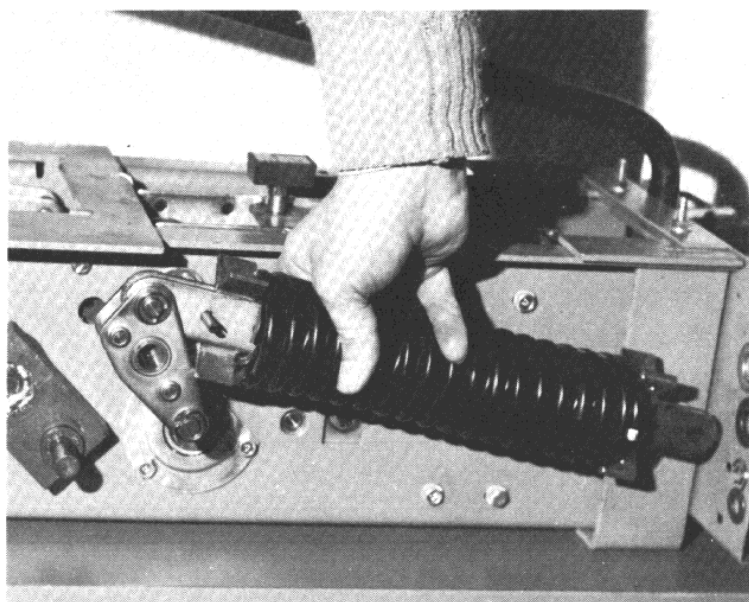

Figure 14
2. Re-install both the top and bottom springs, recoupling them as shown in (Figure 14).